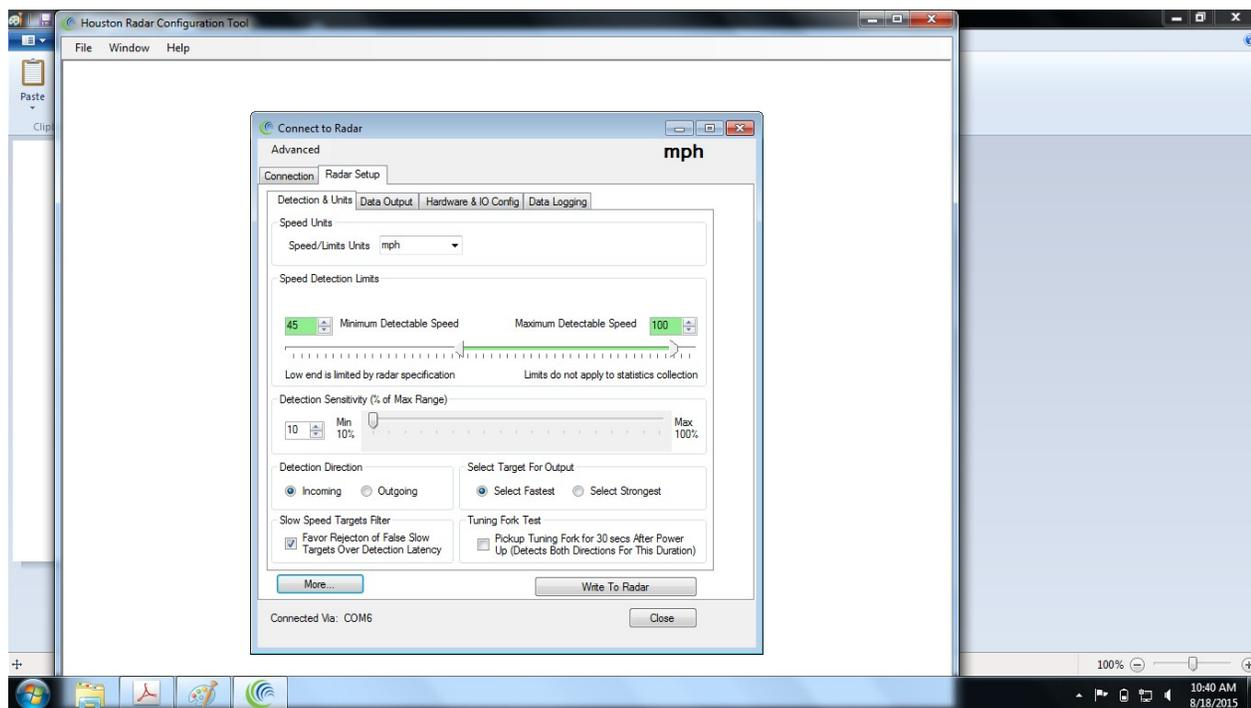

Figure 9
7.) Click on the Detection and Units Tab. See Figure 9.